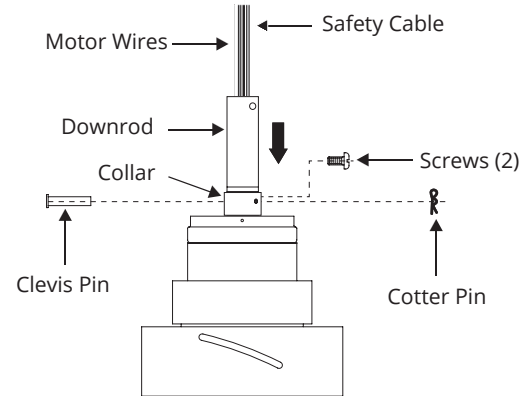

FIG. 9
2. Remove the clevis pin and cotter pin, and loosen the two collar screws from the motor collar (FIG. 9).
4. Align the holes of downrod and collar and insert the cotter pin and clevis pin. Tighten the two collar screws (FIG. 9).